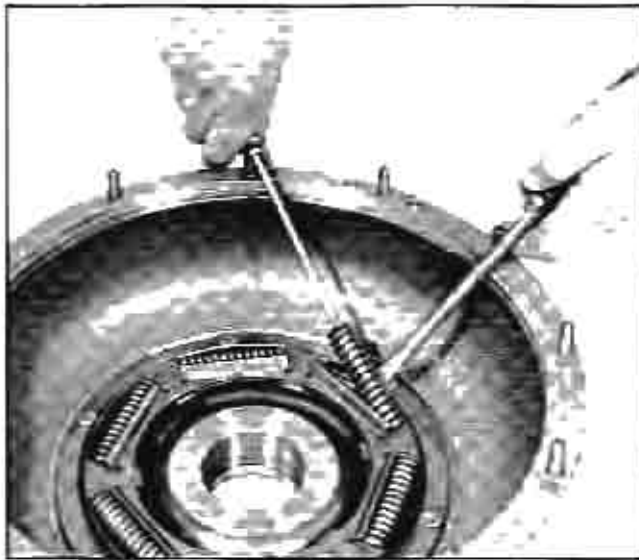

Fig. 171 Removing Torus Cover Damper Spring
- b. Place second screwdriver under spring and pry out of cover (Fig. 171).